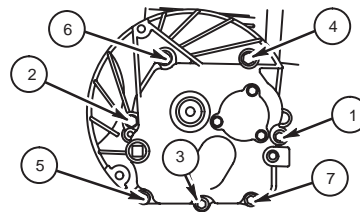

Fig. 146 – Torque Sequence
2. Torque crankcase cover screws in sequence shown in Fig. 146.